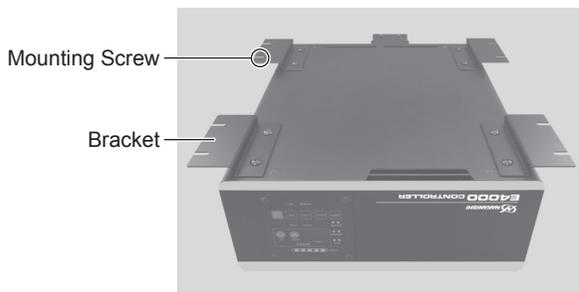

Fig. 11
- The Bracket can be installed on the " (1) Bottom Mounting (Fig. 11, 12) " and " (2) Side Surface Mounting (Fig. 13, 14) " of the CONTROLLER.
- ② Install the Brackets (4pcs.) to the bottom of CONTROLLER by using removed Mounting Screws (8pcs.) (Fig. 11).